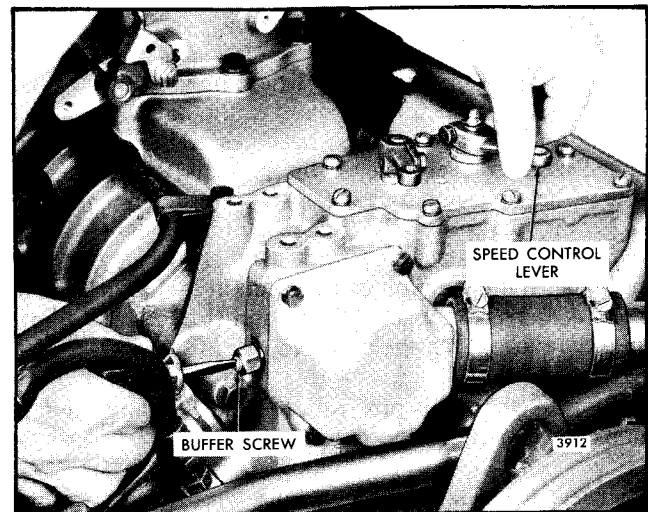

Fig. 17 - Adjusting Buffer Screw
2. Back out the buffer screw until it extends approximately 5/8" from the locknut (Fig. 17).
1. With the engine running at normal operating temperature, turn the buffer screw in (Fig. 17) so it contacts the differential lever as lightly as possible and still eliminates engine roll.